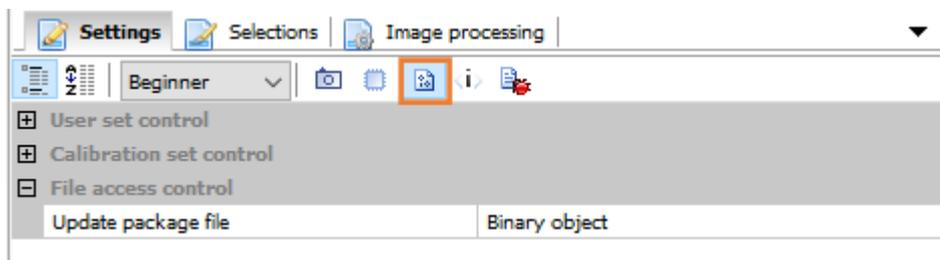

Figure 6-1 Firmware upgrade - storage icon (for CL / GigE Vision)
- In Xeneth: go to the Settings tab / Storage icon (see Figure 6-1)